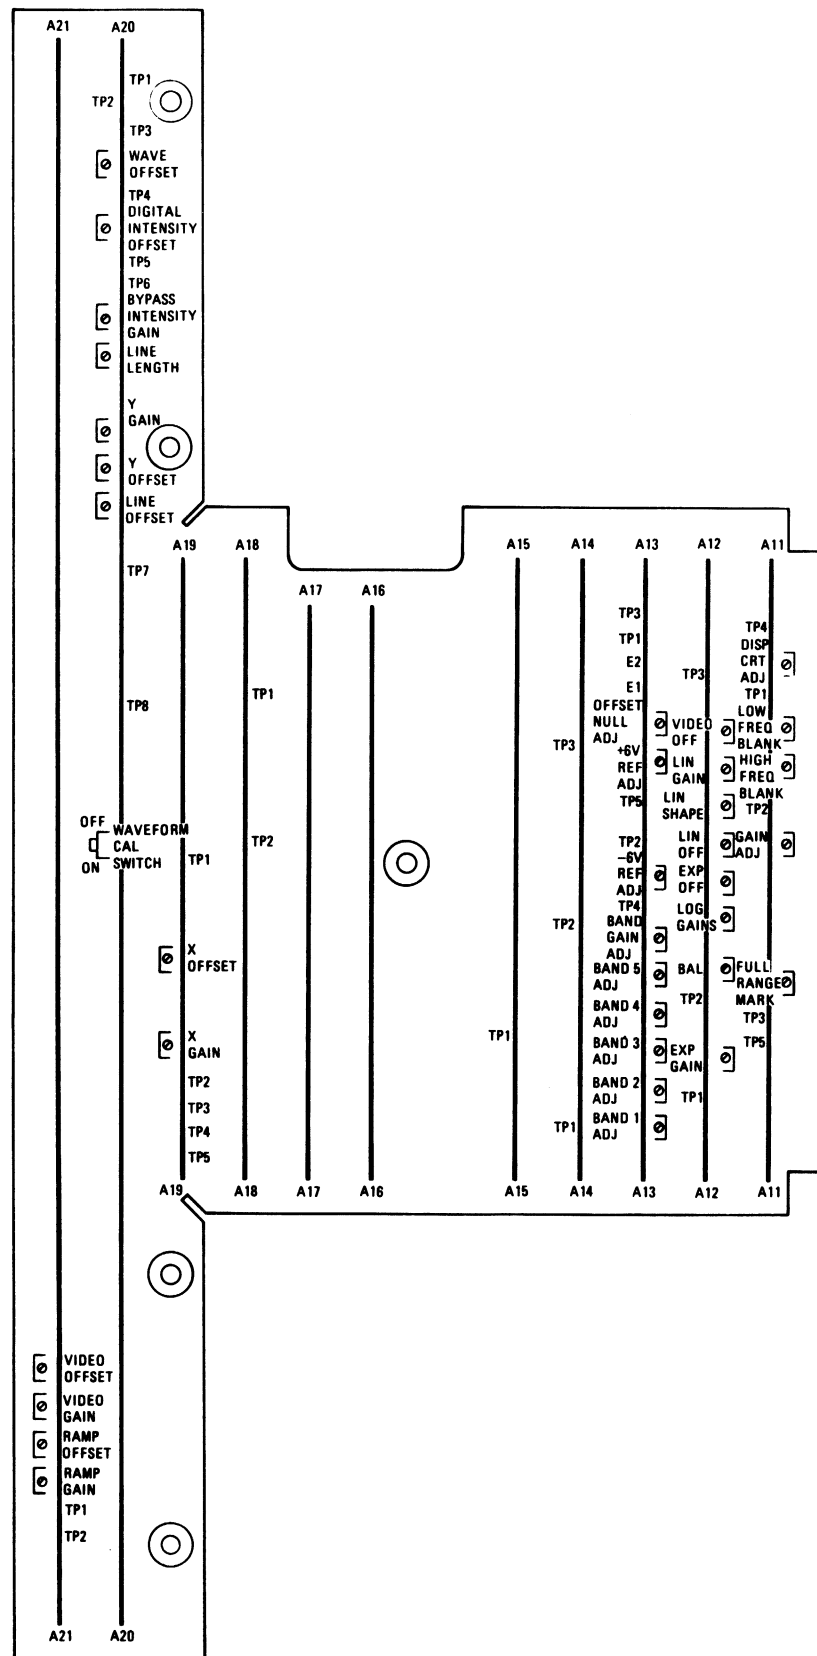
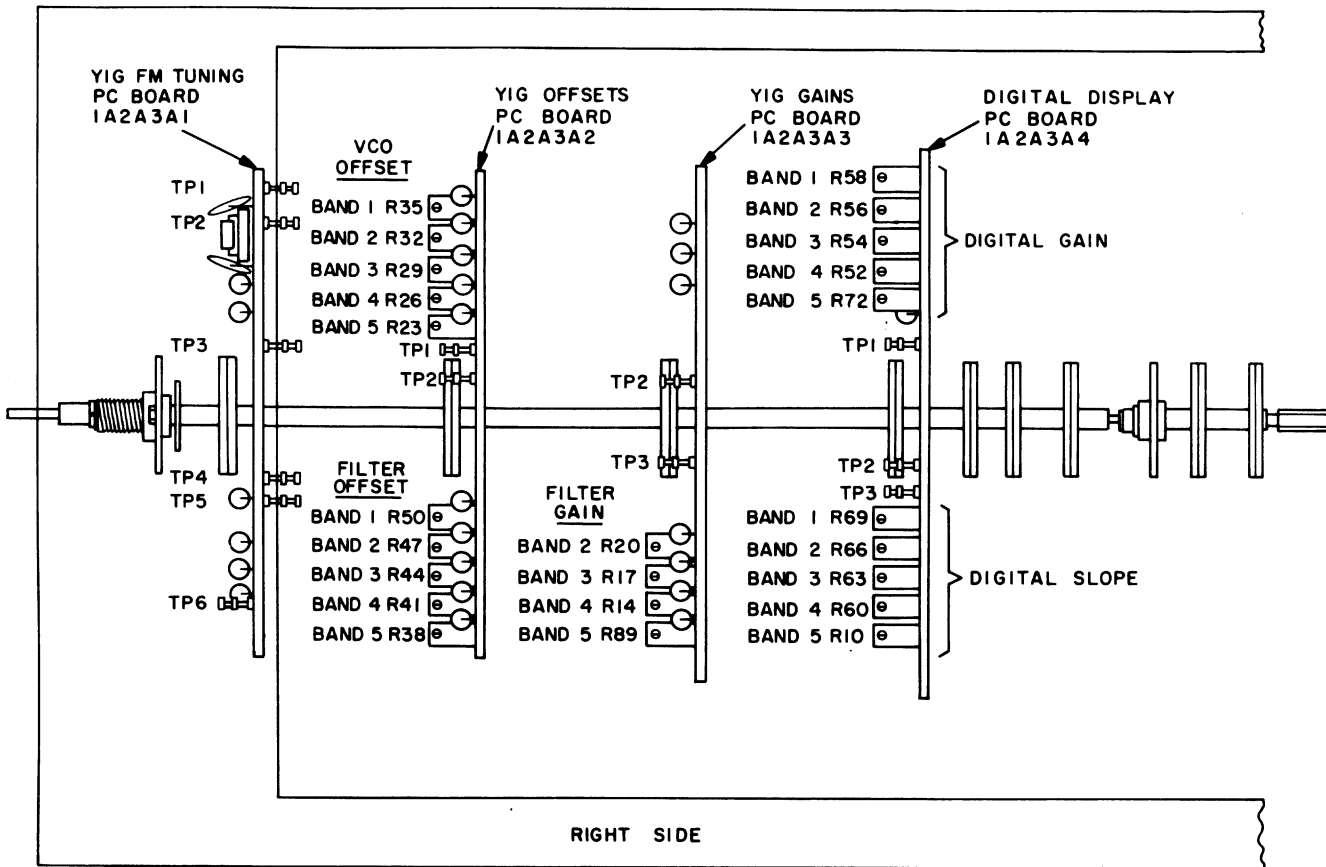

Figure 6-1. Adjustable Component and Test Point Location Diagram for Card File Assemblies 1A11 Through 1A21
Figure 6-2. Adjustable Component and Test Point Location Diagram for RF Range Switch Assemblies 1A2A3A1 Through 1A2A3A4
3. Connect a digital voltmeter between test point A13TP5 on Regulator Bias Printed Circuit Board 1A13 and chassis ground. Adjust +6V REF ADJ potentiometer 1A13R37 on Regulator Bias Printed Circuit Board 1A13 (Figure 6-1) for a +6 ±0.005 Vdc reading.
3. Twenty comb lines should appear on the display. If not, adjust BAND 1 FILTER OFFSET potentiometer 1A2A3A2R50 (Figure 6-2) on Yig Offset Board (part of RF Range Switch Assembly 1A2A3) until 20 comb lines appear. Two settings are possible; the most clockwise setting is correct.
5. Set SCAN WIDTH/DIV control to 100 MHz position. Adjust GAIN ADJ potentiometer 1A11R21 in Sweep Generator Printed Circuit Board 1A11 (Figure 6-1) while monitoring A11TP2 on an oscilloscope and set the sweep excursions for approximately 1.4 volt displacement. Adjust HORZ GAIN control on Front Panel so that each 100 MHz comb line falls on a graticule line. (Some adjustment of the TUNING control will be necessary to cause the first comb line to fall on first graticule line.)
6. Disconnect AILTECH 70790 Comb Generator. Adjust TUNING control to approximately 0 MHz until band 1 zero beat frequency signal is in the center of the display. Set SCAN WIDTH/DIV control to  MHz position and recenter signal. Set SCAN WIDTH/DIV to 200 MHz position; zero beat should stay in center of display. If not, adjust DISP CRT ADJ potentiometer 1A11R12 in Sweep Generator Printed Circuit Board 1A11 (Figure 6-1).
8. Turn VAR VIDEO BW control counterclockwise approximately half way. Adjust BAL potentiometer 1A12R24 on Processed Video Printed Circuit Board 1A12 (Figure 6-1) until there is no baseline movement when the VERT SCALE/DIV is rotated between the 2, 5, and  positions with the IF ATTEN (dB) control set to 100 dB position. Return the IF ATTEN (dB) control to 10 dB, VAR VIDEO BW fully clockwise, and VERT SCALE/DIV to 5 after alignment.
9. Monitor 1A12TP2 on Processed Video Printed Circuit Board 1A12 with an oscilloscope. Adjust LOG GAINS potentiometer 1A12R25 on Processed Video Printed Circuit Board 1A12 (Figure 6-1) until an inverted video (comb lines) displacement of approximately 1.7 volts from baseline (noise) is achieved on the oscilloscope. This should position potentiometer 1A12R25 so that the CRT display shows full scale deflection of signals. If not, verify that BYPASS mode is on and it may be necessary to adjust the VERT GAIN control on Front Panel to obtain the full scale deflection. Set VERT SCALE/DIV to . Exercise IF ATTEN (dB) in 10 dB steps. Each step should result in a vertical displacement of one division. It may be necessary to vary potentiometer 1A12R25 slightly to achieve this. Some interaction with the VERT SCALE/DIV control's LOG positions will be noted. If that is the case, repeat steps 8 and 9 before proceeding further.
1. Connect an AILTECH 70790 Comb Generator to RF INPUT connector on Front Panel and turn TUNING control to center trace on display. Ground test point 1A14TP1 on Digital Display Printed Circuit Board No. 2 1A14 (Figure 6-1) with a clip lead. This centers the band on the display and disables the TUNING. The CENTER FREQUENCY (MHz) readout should indicate 1000 MHz. If not, adjust BAND 1 DIGITAL SLOPE potentiometer 1A2A3A4R69 (Figure 6-2) on RF Range Switch Assembly 1A2A3 for the proper reading.
2. Locate 1000 MHz comb line by counting 10 lines up from the zero beat line. (Note: Zero beat line does not change amplitude when RF ATTEN (dB) control is rotated.) The 1000 MHz line should fall in center of display. If not, adjust BAND 1 VCO OFFSET potentiometer 1A2A3A2R35 (Figure 6-2) on RF Range Switch Assembly 1A2A3. Adjust BAND 1 FILTER OFFSET potentiometer 1A2A3A2R50 (Figure 6-2) on RF Range Switch Assembly 1A2A3 for maximum amplitude.
3. Remove clip lead from test point TP1 on Digital Display Printed Circuit Board No. 2 1A14, set SCAN WIDTH/DIV to **10** and adjust TUNING to set zero beat signal to center of display. Adjust BAND 1 DIGITAL GAIN potentiometer 1A2A3A4R58 (Figure 6-2) on RF Range Switch Assembly 1A2A3 until CENTER FREQUENCY (MHz) readout indicates 0 MHz. Set SCAN WIDTH/DIV control to 200 MHz position, RF ATTEN (dB) control to 40 and TUNING control to 1000 MHz. Adjust BAND 1 ADJ potentiometer 1A13R2 on Regulator Bias Printed Circuit Board 1A13 (Figure 6-1) until all signal amplitudes on display are maximized.
2. Adjust BAND 2 VCO and FILTER OFFSET potentiometers 1A2A3A2R47, and 1A2A3A2R32 respectively, on RF Range Switch Assembly 1A2A3 and FILTER GAIN potentiometer 1A2A3A3R20 (Figure 6-2), until 20 scan lines
3. Ground test point 1A14TP1 on Digital Display Printed Circuit Board No. 2 1A14 with a clip lead (Figure 6-1). This centers the band on display and disables TUNING. CENTER FREQUENCY (MHz) readout should indicate 3000 MHz; if not, adjust BAND 2 DIGITAL SLOPE potentiometer 1A2A3A4R66 (Figure 6-2) on RF Range Switch Assembly 1A2A3.
4. Locate 3000 MHz signal line on the display with a signal generator or frequency meter as in test setup of Figure 4-5. Adjust R32 (Figure 6-2) on RF Range Switch Assembly 1A2A3 to move this line to center of the display as SCAN WIDTH/DIV is decreased to **10** MHz per division. R47 must be adjusted simultaneously in order to maintain peak response.
5. Returning SCAN WIDTH/DIV to 200 MHz, adjust BAND 2 FILTER GAIN potentiometer R20 (Figure 6-2) on RF Range Switch Assembly 1A2A3 until maximum amplitude occurs for all 20 lines displayed. It should be noted that these adjustments are optimized when SIGNAL CENTER control is at the center of its range.
6. Remove the clip lead from test point TP1 on Digital Display Printed Circuit Board No. 2 1A14 and ensure that 3000 MHz is still centered on the display. Adjust TUNING control if not centered. With SCAN WIDTH/DIV at 30 MHz, rotate TUNING control slowly counterclockwise and count 100 MHz comb lines until the 2000 MHz line (band 2 lower calibration point) is identified. Set SCAN WIDTH/DIV to **10** MHz per division and center this line. Adjust BAND 2 DIGITAL GAIN potentiometer 1A2A3A4R56 (Figure 6-2) on RF Range Switch Assembly 1A2A3 until CENTER
7. Return SCAN WIDTH/DIV to 200 MHz position and TUNING to 3000 MHz. Adjust BAND 2 ADJ potentiometer 1A13R3 (Figure 6-1) on Regulator Bias Printed Circuit Board 1A13 for optimum gain at all comb signals displayed.
2. Adjust BAND 3 VCO and FILTER OFFSET potentiometers and BAND 3 FILTER GAIN potentiometer 1A2A3A2R29, 1A2A3A2R44, and 1A2A3A3R17 on RF Range Switch Assembly 1A2A3 (Figure 6-2) until 20 scan lines appear on the display at maximum amplitude.
3. Ground test point 1A14TP1 on Digital Display Printed Circuit Board No. 2 1A14 with a clip lead (Figure 6-1). CENTER FREQUENCY (MHz) readout should indicate 5800 MHz, if not, adjust BAND 3 DIGITAL SLOPE potentiometer 1A2A3A4R63 (Figure 6-2) on RF Range Switch Assembly 1A2A3.
4. Locate 5800 MHz line (center frequency, band 3) with signals generator or frequency meter. Adjust potentiometers R29 and R44 (Figure 6-2)
5. Set SCAN WIDTH/DIV to 500 MHz per division and adjust BAND 3 FILTER GAIN potentiometer 1A2A3A3R17 (Figure 6-2) on RF Range Switch Assembly 1A2A3 until maximum amplitude is displayed for all comb lines. Adjust potentiometers R44 and R17 for best tracking. It should be noted that these adjustments are optimized when SIGNAL CENTER control is at the center of its range.
6. Remove the clip lead from test point TP1 on Digital Display Printed Circuit Board No. 2 1A14 and verify that 5800 MHz is still in the center of the display. Adjust TUNING control if not centered. With SCAN WIDTH/DIV at 30 MHz, rotate TUNING control slowly counterclockwise and count 100 MHz comb lines until the 4800 MHz line (band 3 lower calibration point) is identified. Set SCAN WIDTH/DIV to 10 MHz per division and center this line. Adjust BAND 3 DIGITAL GAIN potentiometer 1A2A3A4R54 (Figure 6-2) on RF Range Switch Assembly 1A2A3 until CENTER FREQUENCY (MHz) readout indicates 4800 MHz. With a frequency meter or signal generator, verify that the comb line is indeed 4800 MHz. With a frequency meter or signal generator, SET SCAN WIDTH/DIV to 200 MHz and RF ATTEN (dB) control to 20.
7. Set TUNING TO 5800 MHz and adjust BAND 3 ADJ potentiometer 1A13R4 on Regulator Bias Printed Circuit Board 1A13 (Figure 6-1) for optimum gain at all comb signals displayed.
2. Adjust BAND 4 VCO and FILTER OFFSET potentiometer and BAND 4 FILTER GAIN potentiometers 1A2A3A2R26, 1A2A3A2R41, and 1A2A3A3R14 on RF Range Switch Assembly 1A2A3 (Figure 6-2) until 20 scan lines appear on the display at maximum amplitude.
3. Ground test point 1A14TP1 on Digital Display Printed Circuit Board No. 2 1A14 with a clip lead (Figure 6-1). CENTER FREQUENCY (MHz) readout should indicate 8900 MHz, if not, adjust BAND 4 DIGITAL SLOPE potentiometer 1A2A3A4R60 (Figure 6-2) on RF Range Switch Assembly 1A2A3.
4. Locate 8900 MHz line (center frequency, band 4) with signal generator or frequency meter. Adjust potentiometers R26 and R41 (Figure 6-2) on RF Range Switch Assembly 1A2A3 to move this line to center of display as SCAN WIDTH/DIV is decreased to **10** MHz.
5. Set SCAN WIDTH/DIV to 700 MHz per division and adjust potentiometer 1A2A3A3R14 on RF Range Switch Assembly 1A2A3 until maximum amplitude is displayed for all comb lines. (Note: It may be necessary to degauss the Yig components from the hysteresis buildup. This is accomplished by exercising the SCAN WIDTH/DIV control from the 700 MHz to 10 MHz positions at least once.) Readjust potentiometers R41 and R14 (Figure 6-2) for best tracking. It should be noted that these adjustments are optimized when SIGNAL CENTER control is at the center of its range.
6. Remove the clip lead from test point TP1 on Digital Display Printed Circuit Board No. 2 1A14 and verify that 8900 MHz is still in the center of the display. Adjust TUNING control if not centered. With SCAN WIDTH/DIV at 30 MHz, rotate TUNING control slowly counterclockwise and count 100 MHz comb lines until the 7900 MHz line (band 4 lower calibration point) is identified. Center this line at **10** MHz per division and adjust BAND 4 DIGITAL GAIN potentiometer 1A2A3A4R52 (Figure 6-2) on RF Range Switch Assembly 1A2A3 until CENTER FREQUENCY (MHz) readout indicates 7900 MHz. Set SCAN WIDTH/DIV to 500 MHz position and RF ATTEN (dB) control to **10** position.
7. Set TUNING to 8900 MHz and adjust BAND 4 ADJ potentiometer 1A13R5 on Regulator Bias Printed Circuit Board 1A13 (Figure 6-1) for optimum gain at all comb signals displayed.
2. Adjust BAND 5 VCO and FILTER OFFSET potentiometers and BAND 5 FILTER GAIN potentiometer 1A2A3A2R23, 1A2A3A2R38, and 1A2A3A3R89 on RF Range Switch Assembly 1A2A3 (Figure 6-2) until 20 scan lines appear on the display at maximum amplitude.
3. Ground test point 1A14TP1 on Digital Display Printed Circuit Board No. 2 1A14 with a clip lead (Figure 6-1). CENTER FREQUENCY (MHz) readout should indicate 16000 MHz; if not, adjust BAND 5 DIGITAL SLOPE potentiometer 1A2A3A4R10 (Figure 6-2) on RF Range Switch Assembly 1A2A3.
by exercising the SCAN WIDTH/DIV control from the 700 MHz to 10 MHz positions at least once.) Readjust potentiometers R23 and R89 (Figure 6-2) for best tracking. It should be noted that these adjustments are optimized when SIGNAL CENTER control is at the center of its range.